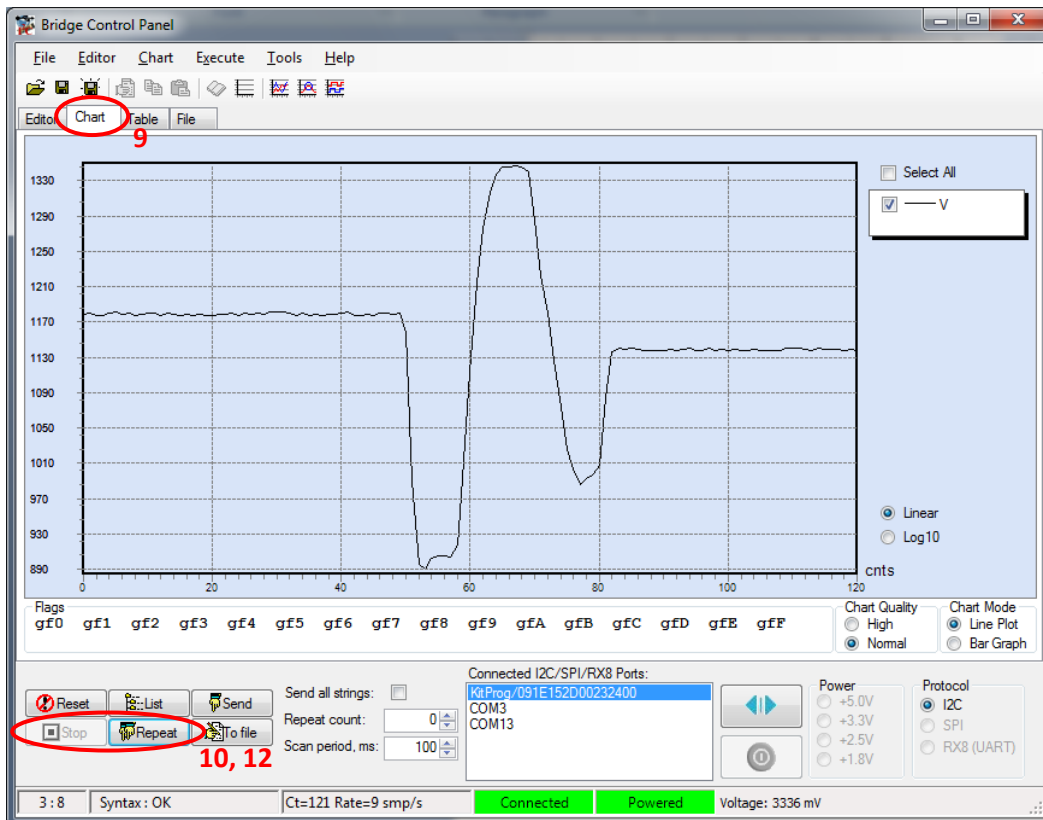

Figure 6: Bridge Control Panel Chart Window
9. Go to the "Chart" Tab (Figure 6).
10. Click "Repeat" to see the voltage plotted real time (Figure 6).
12. Click "Stop" when done (Figure 6).